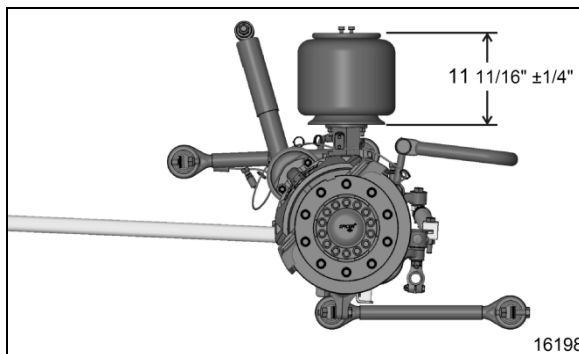
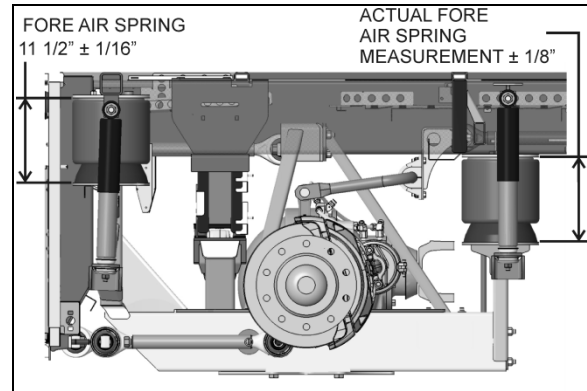
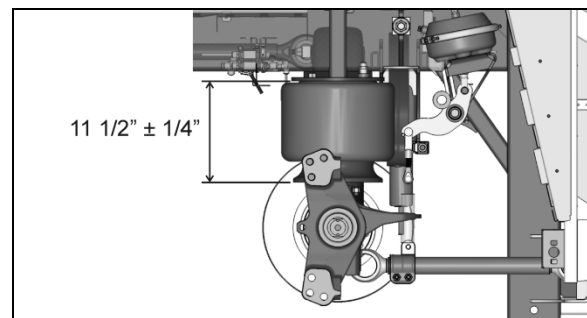

FIGURE 17: FRONT I-BEAM AXLE AIR SPRING CLEARANCE
FIGURE 18: DRIVE AXLE AIR SPRING CLEARANCE 16195
FIGURE 19: TAG AXLE AIR SPRING CLEARANCE 16195
The appropriate vehicle body height is obtained by measuring the clearance of all the air springs installed on the vehicle. Refer to Figure 17, Figure 18, Figure 19, to identify the correct area to take measurement and proper value. At this point, it should not be necessary to make an adjustment under normal service conditions. However, if an adjustment is required, change the position of the overtravel lever in relation to the overtravel control body. The lever should be moved up to raise vehicle height, and down to lower it. Check that main air pressure is at normal operating pressure and raise the vehicle to the specified height.
*The measurement should be taken from underneath the upper air spring support on subframe to top of the lower air spring support on axle (refer to Figure 17 for more details). If adjustment is required, begin with the drive axle.*
- With the vehicle at normal operating air pressure [122 - 140 psi], measure air spring clearance. This clearance should be as per Figure 18 and Figure 19.